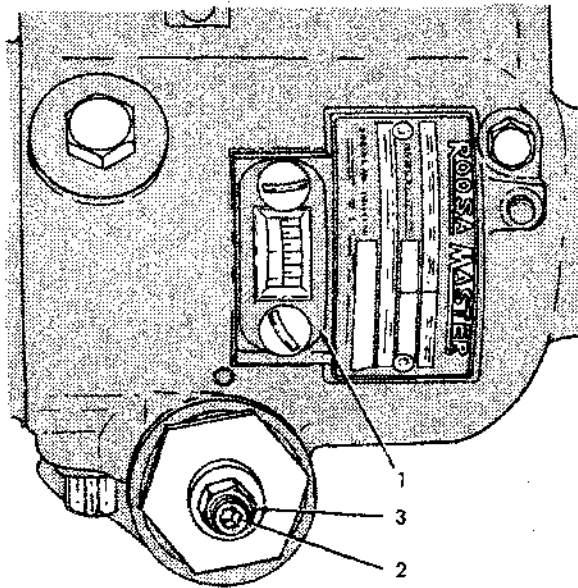

Fig. 5a -- Timing Window Installed On
2. Remove timing window cover, and install plastic timing window, Fig. 5a (1).
5. Run engine at high idle, then reduce speed to 1900 rpm and observe timing mark on cam ring. The timing mark should have dropped three (3) graduations on the timing window, indicating a timing advance of 6° pump or 12° engine.
6. To adjust the timing advance mechanism, remove the adjusting screw cover, loosen the lock nut and turn the adjusting screw, Fig 5a, until the specified advance is attained. Turning the adjusting screw clockwise advances the timing; counter-clockwise retards the timing. Securely tighten the lock nut after each adjustment.